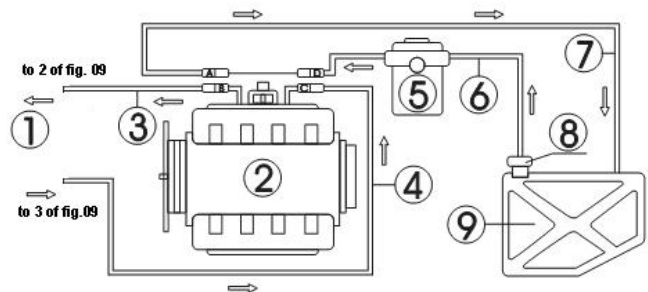

Fig.09
The hose line connection of the engine with return hose is shown as in Fig.09.
- 1) Disconnect the connections of fuel supply hoses (C、D) and fuel return hoses (A、B) of the engine fuel system (wrap the connector with towel when disconnecting the connector). Choose proper connectors and connect them to the B end and C end separately, and then connect the other ends to corresponding return hose and outlet hose of the unit. See Fig.09.